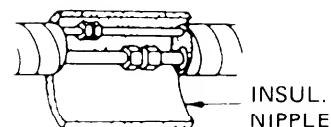

Fig. 26
3. After performing a leak test on the connecting part, insulate it with INSUL. NIPPLE and finish with a vinyl masking tape over it. Fig. 26